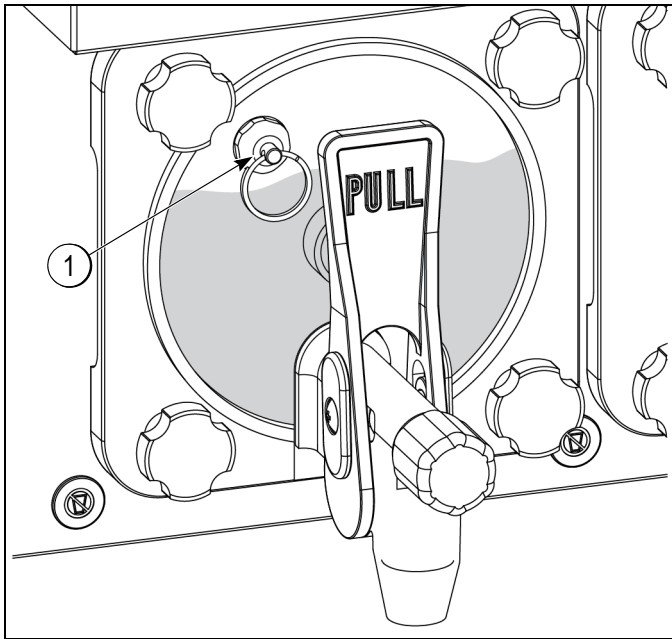

Figure 6-27
5. Valves will shut off again, see figure 6-27 for the approximate liquid level after valves shut off for the second time.
6. Pull on the relief valve ring (1) to relieve pressure. Valves will automatically restart when pressure drops below 20 BPU. When valves activate, **RELEASE** relief valve ring (1).